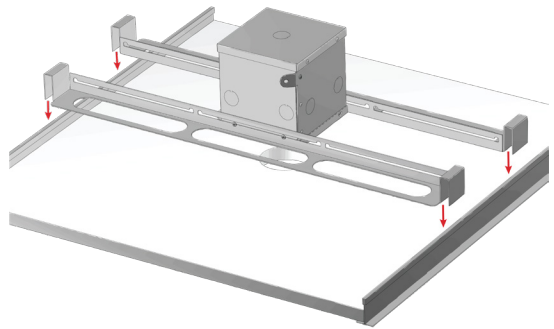

Figure 10.
6. Lower the conduit assembly over the previously-cut hole in the ceiling tile as shown in Figure 10.